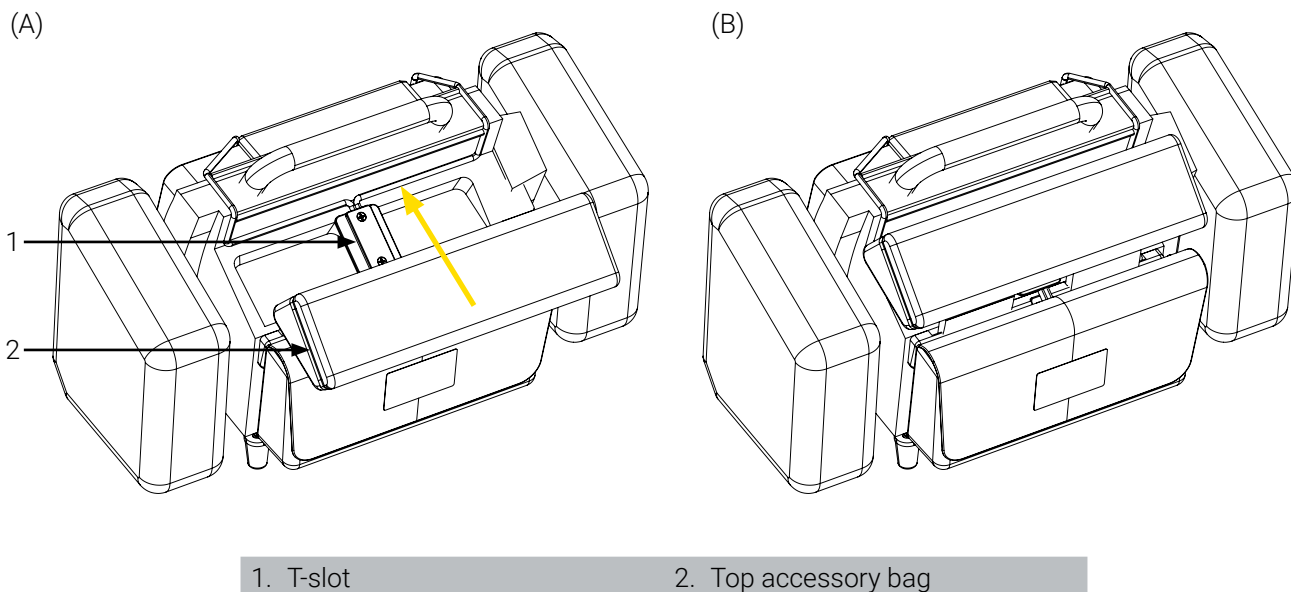

Figure 3: Installation of the top accessory bag
2. Align the anchor of the top accessory bag with the T-slot located on top of the Bracket Pro Serie 35 - LP (Figure 3 A), then slide the bag up the T-slot (Figure 3 B) until you hear the click sound of the attachment.